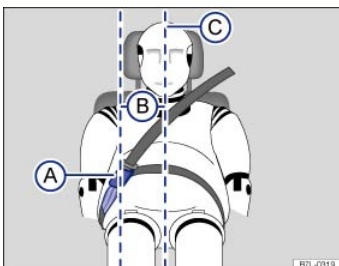

Fig. 68 Positioning of the safety belt extender.
Key to ⇒ Fig. 68 :
- Never use a safety belt extender if the distance (B) between the front edge of the safety belt extender buckle (A) and the centerline of the person using the safety belt extender ⇒ Fig. 68ⓐ is less than 6 inches (15 cm).